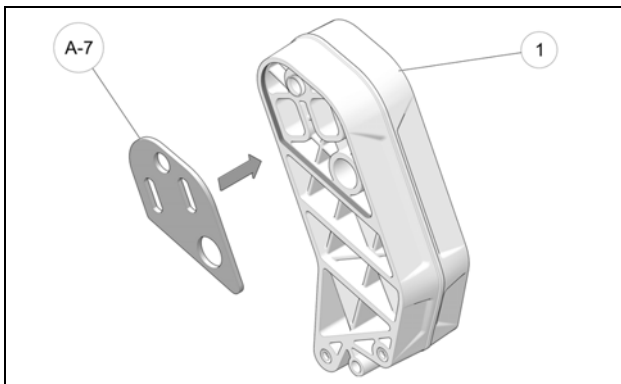

Figure 1
- Install one of the Side Plates (A-7) on the right side of the Ski Upright (1). See Figure 1.